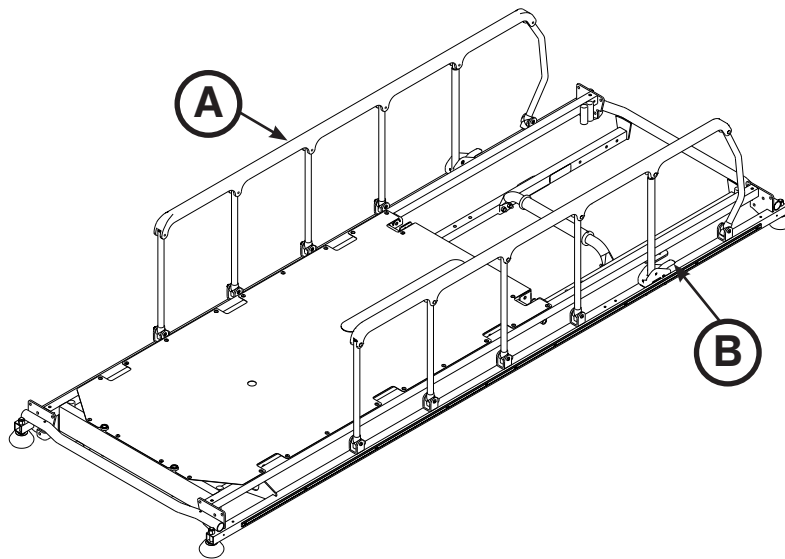

Figure 4: Siderails
**To raise the siderails**, pull up on the siderail (A) and raise it to the highest position until the latch (B) engages as shown in Figure 4.
**To lower the siderails**, pull up on the latch (B) and guide the siderail to the lowest position as shown in Figure 4.